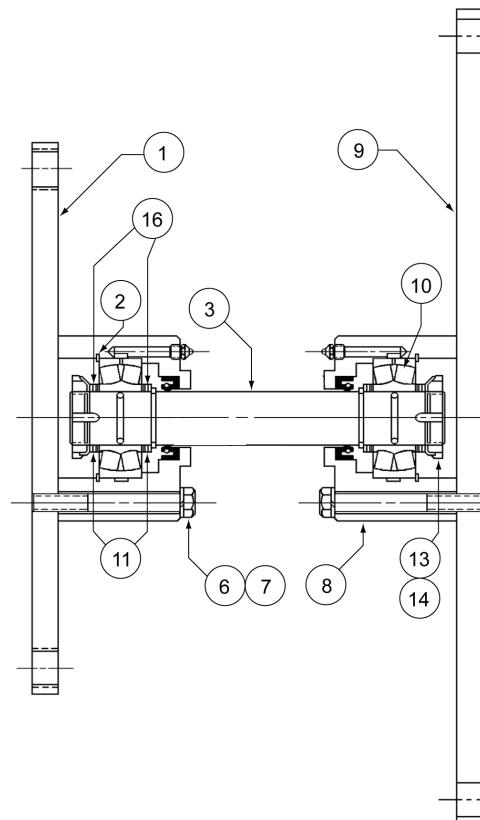

Figure 6
- 2.5.3 Referring to Figure 6, the overall length of the axial locking device can be adjusted by relocating shims (11,16) from one side of a bearing to another.